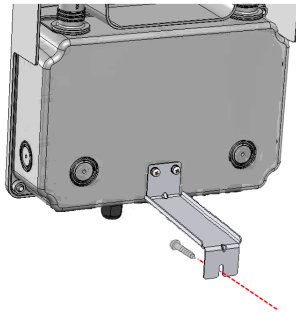

Figure 14: Securing the DC Safety Unit to the wall
4. Mark the location of the drilling hole required for the screw that secures the bracket of the DC Safety Unit to the wall (See *Figure 14*) and remove the inverter from the wall.